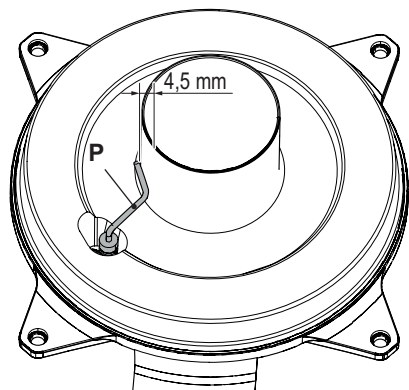

Fig. 10.13
- The ignition/detection electrode "P" in Fig. 10.13 also functions as a sensor for the correct drainage of the condensate. Should the mentioned electrode come into contact with the condensate water present within the combustion chamber it sends the boiler into safety lockout. Therefore, should the insulation be wet or deteriorated, provide for the substitution of the same.